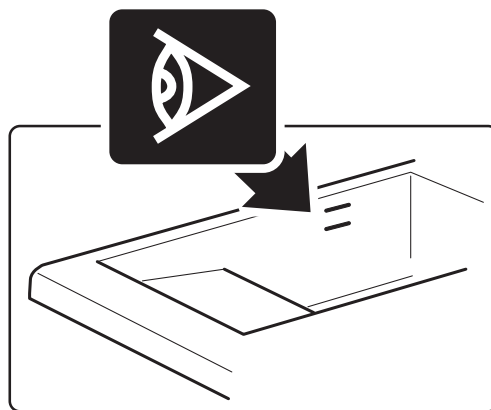

Fig. 5 Tank maximum/minimum filling level
- Always ensure that the oil level is between the **maximum** and the **minimum level** (indicated by the relief marks on the inside of the tank, see *Fig. 5 Tank maximum/minimum filling level*).
**Always ensure that the oil level is between the maximum and the minimum level indicated by the relief marks on the inside of the tank (See Fig. 5 Tank maximum/minimum filling level).**